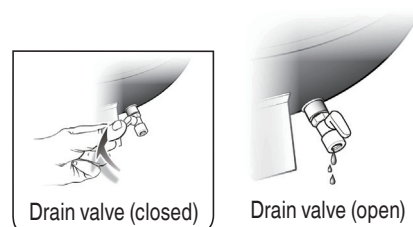

Fig. 8
To drain the tank: (Fig. 8)
- Open the drain valve located at the lower part of the tank (Fig. 8). Tank pressure should be below 10 psi when draining the tank.